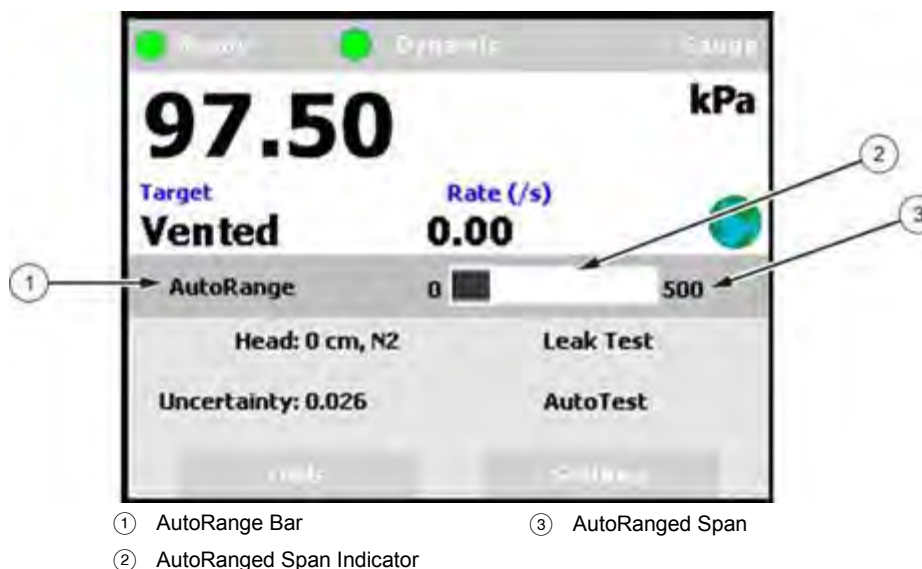

Figure 10. AutoRange Bar
- To verify or confirm the range from the Main Run Screen, use **[AutoRange]** from the Main Run Screen and view the **Range** field to view the active range (see Section 3.2.7) or view the AutoRange and active RPT spans and indicators from the AutoRanger bar on the main run screen (see Figure 10).
The AutoRange Bar in the middle of the PPC4E Main Run Screen displays the range and a graphical indicator of the measured pressure within the active AutoRanged Span (see Figure 10, showing a pressure of 97.5 kPa on a 500 kPa AutoRanged span).